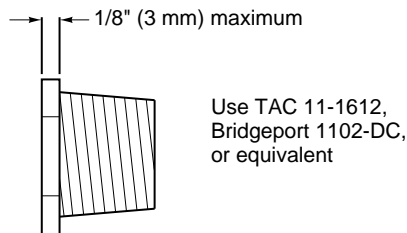
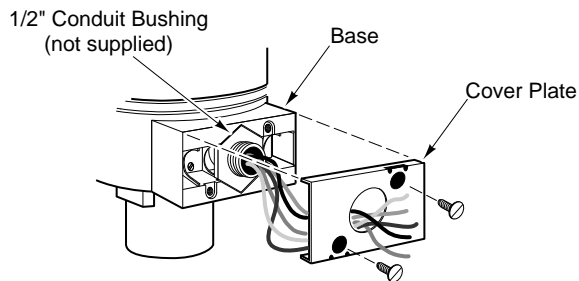

Figure-11 1/2" Conduit Bushing.
Figure-12 Conduit Bushing and Cover Plate Installation.
2. Slip the actuator's leads through a standard 1/2" conduit bushing (Figure-11, not supplied) and the knockout hole in the cover plate. Refer to Figure-12.
*Note:* As shown in Figure-12, the hole in the actuator's cover plate is also sized to accept both British standard M20 (20 mm) conduit connectors and 20 mm-to-PG16 adaptors for use with DIN PG16 connectors. (Follow the steps for installing the conduit box to the actuator.)